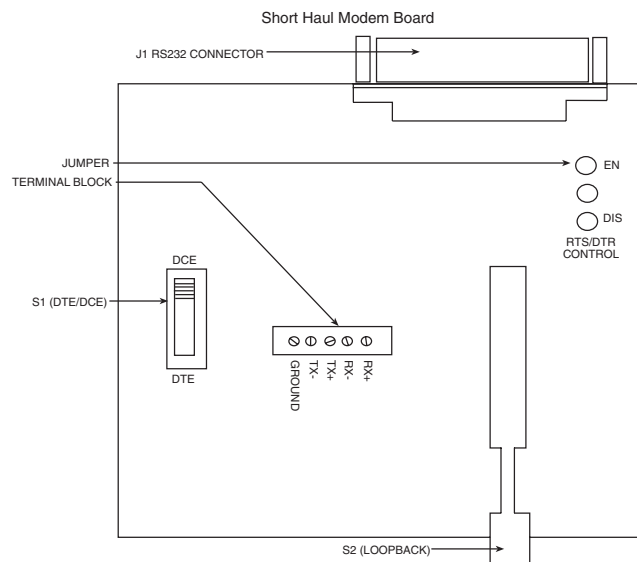

Figure 2-10. Simple Schematic of Short Haul Modem Board.
Refer to Figures 2-10 and 2-11 for diagrams of a Short Haul Modem board and a wiring diagram for two short haul modems. The short haul modem is connected to the PC via a standard RS-232-C cable and 25 pin connector. S1 should be in the DCE position. The jumper setting should be the same on all the modems. Usually it is enabled (EN).